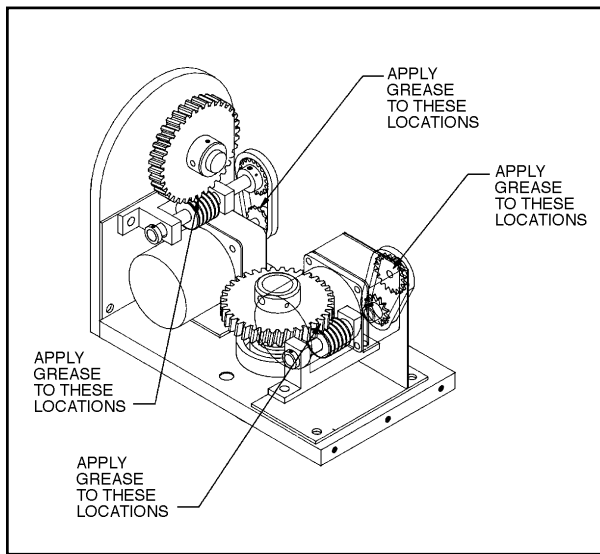

Figure 2. Servicing the PT175-24P and PT180 Series
1. Liberally apply grease to the pan and tilt gears, chains, and sprockets (refer to Figure 2 or 3).